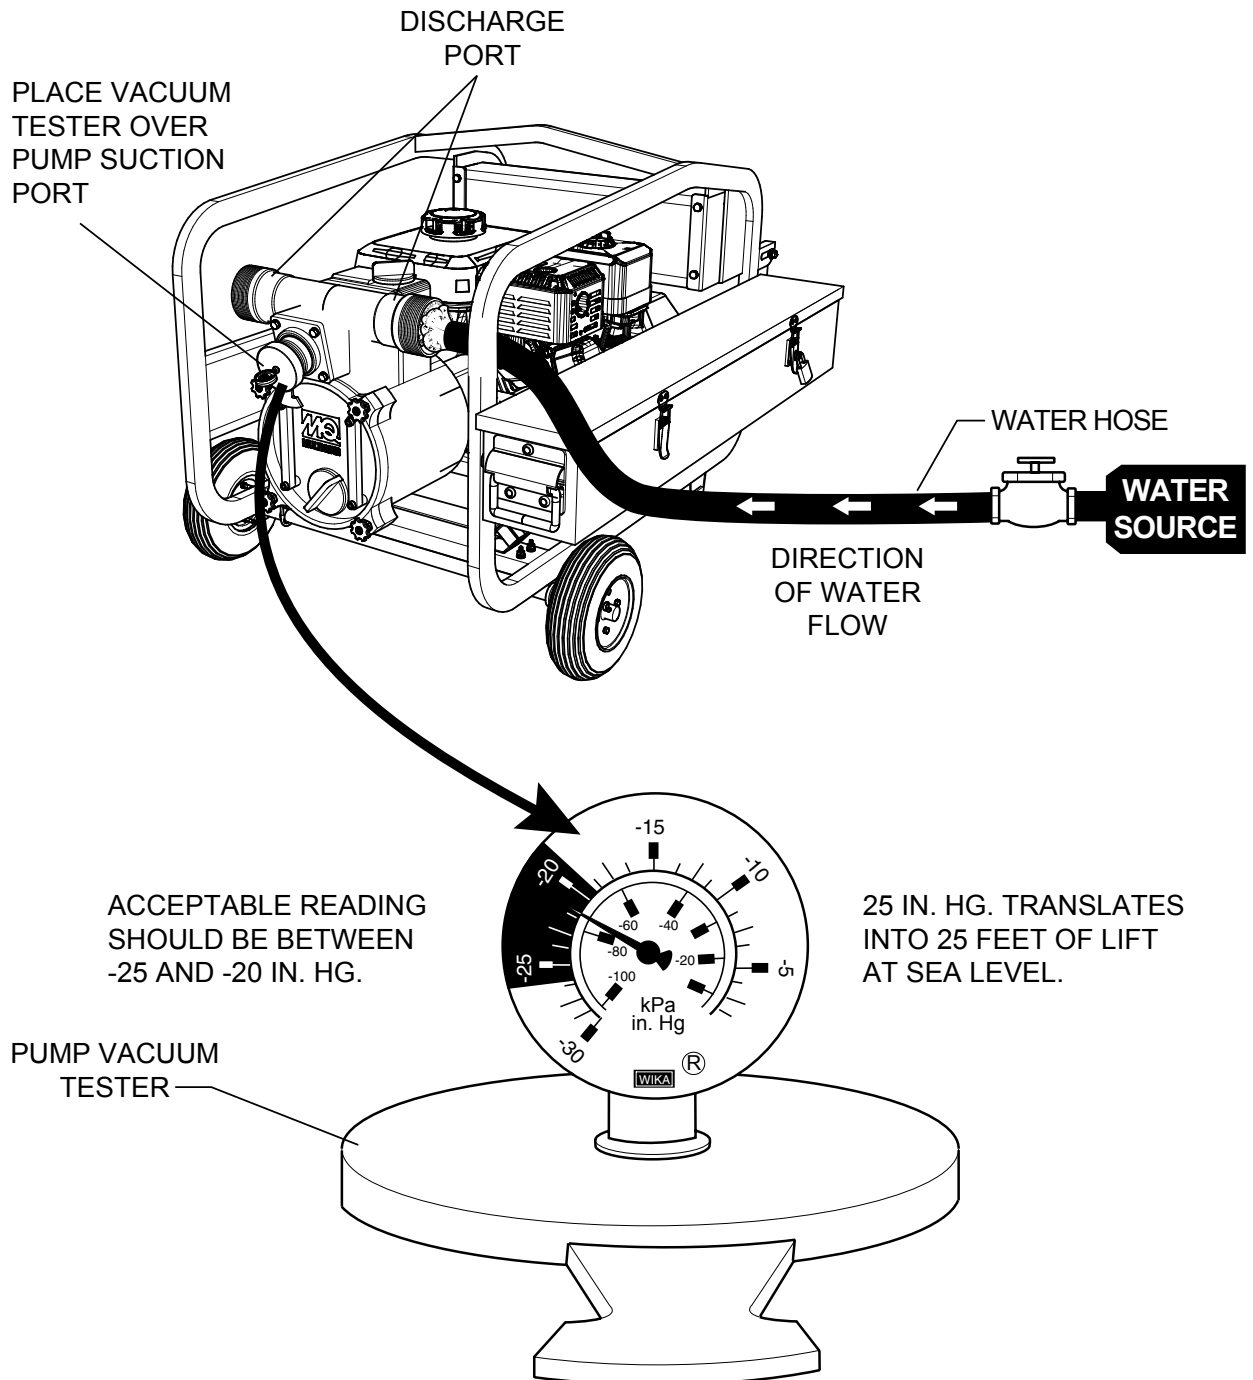

Figure 16. Pump Vacuum Tester
3. As shown in Figure 16, place a water hose inside the discharge opening of the pump, and turn on the water. This flow of water into the discharge opening will **prevent** the pump from running dry.
4. Place the Pump Vacuum Tester (P/N 7000030) over the pump suction (inlet) opening (See Figure 16) with the vacuum gauge facing upwards. It may be necessary to apply a small amount of water around the rubber seal of the vacuum tester to make a good suction fit.